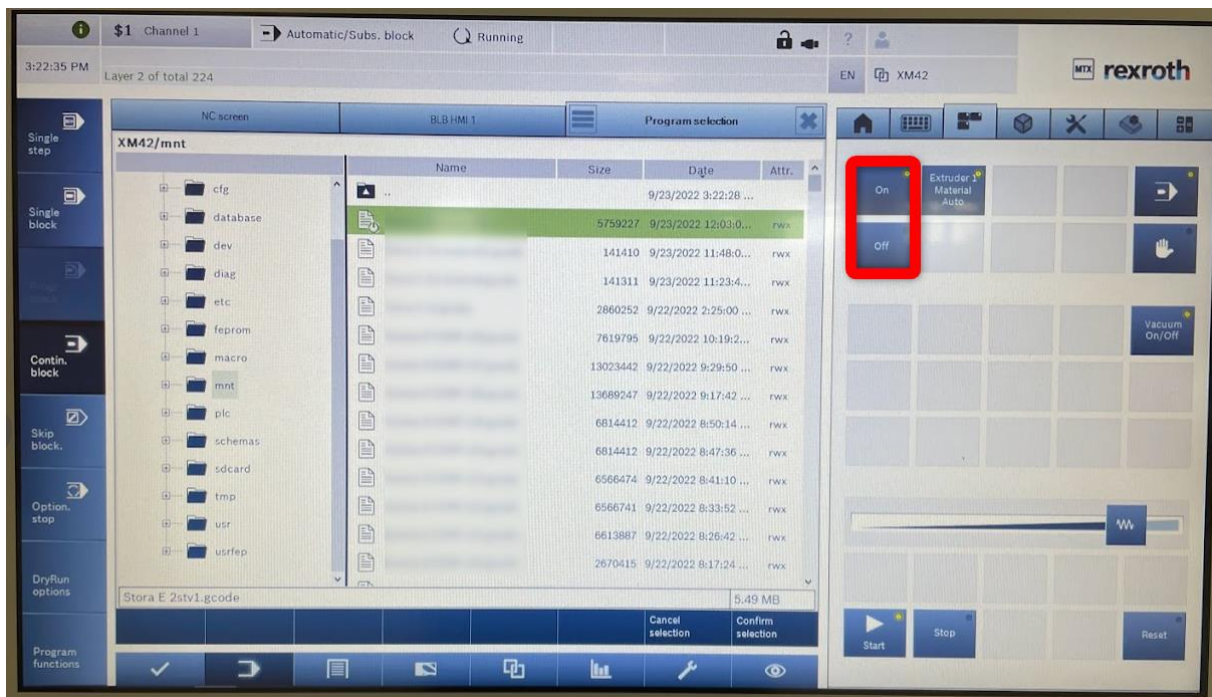

Figure 26
10. Press "ON" located according to fig 26.